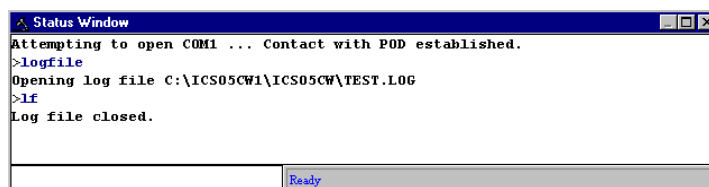

Figure 6-10. Results of Entering the LF Command in the Status Window
- Choose the Start Logfile option from the ICS05JPW File menu, or enter the LF command in the Status Window command line (Figure 6-10).